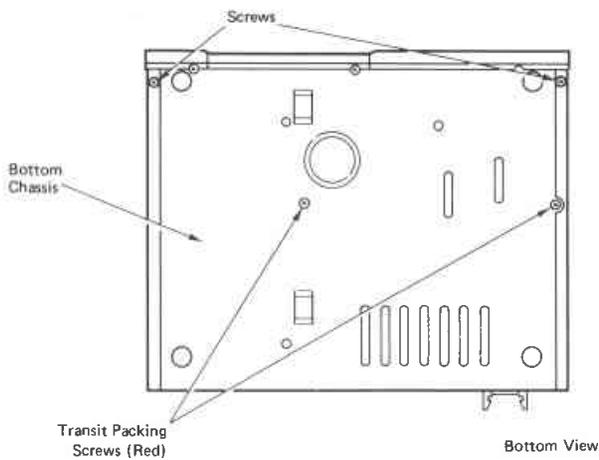
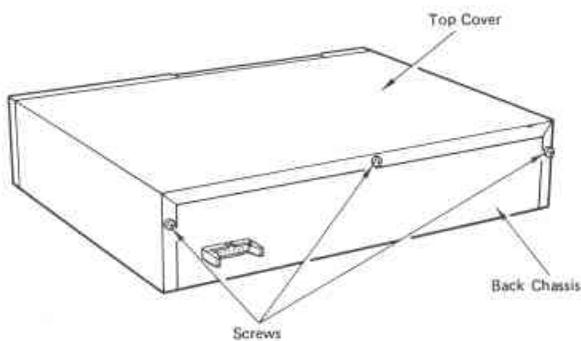

Fig. 1
Fig. 2
- 1) Remove two red transit packing screws on the bottom of the unit used for transportation. (Fig. 1)
- 1) Remove two screws (Fig. 1) from the bottom chassis, and remove three screws from the back chassis. (Fig. 2)